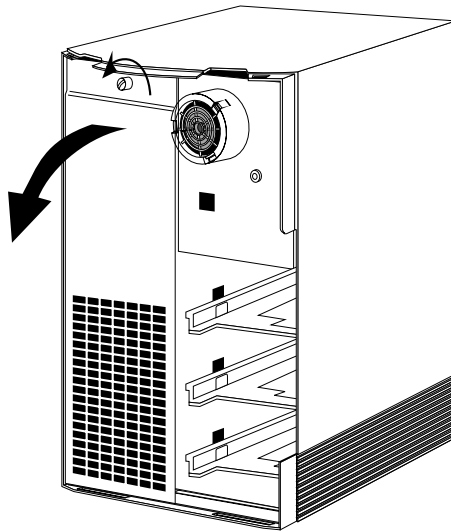

Figure 3-19 Opening the Front Metal Panel
- Loosen the panel by unscrewing the thumbscrew, as shown in Figure 3-19.